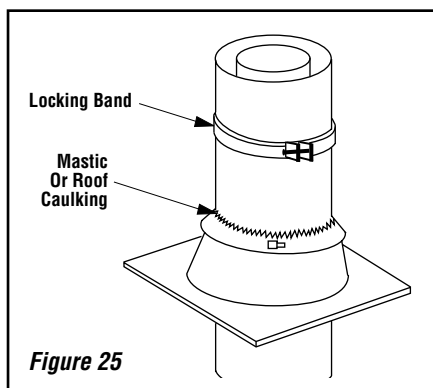

Figure 25
Seal storm collar to outer chimney with roof caulking or mastic around entire circumference of pipe. Also add extra roof caulking to the tab/slot area to seal completely against water penetration (**Figure 25**). Check all joints very carefully to ensure no water intrusion can take place.
**Step 9.** FTF locking bands, Model FLB, may be required if the chimney extends too high above the roof flashing. As a general rule, if the chimney extends more than 6' above the roof flashing, the use of locking bands is advisable to strengthen the chimney assembly. Align the locking band at the chimney joint. Locking bands wrap around pipe joints equally covering the joints of both pipe sections. Use the nut provided and TIGHTEN snugly. Do not overtighten as this might damage the chimney section (refer to **Figure 25**).